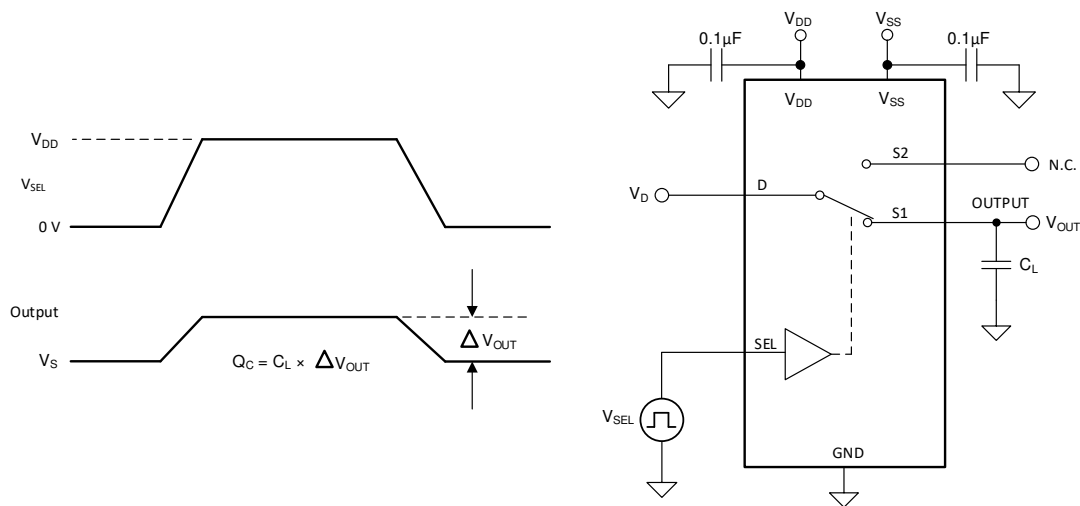

Figure 12. Charge-Injection Measurement Setup
The TMUX1219 has a transmission-gate topology. Any mismatch in capacitance between the NMOS and PMOS transistors results in a charge injected into the source or drain of the device during the falling or rising edge of the gate signal. The amount of charge injected into the source or drain of the device is known as charge injection, and is denoted by the symbol Q_C . Figure 12 shows the setup used to measure charge injection from Drain (D) to Source (Sx).